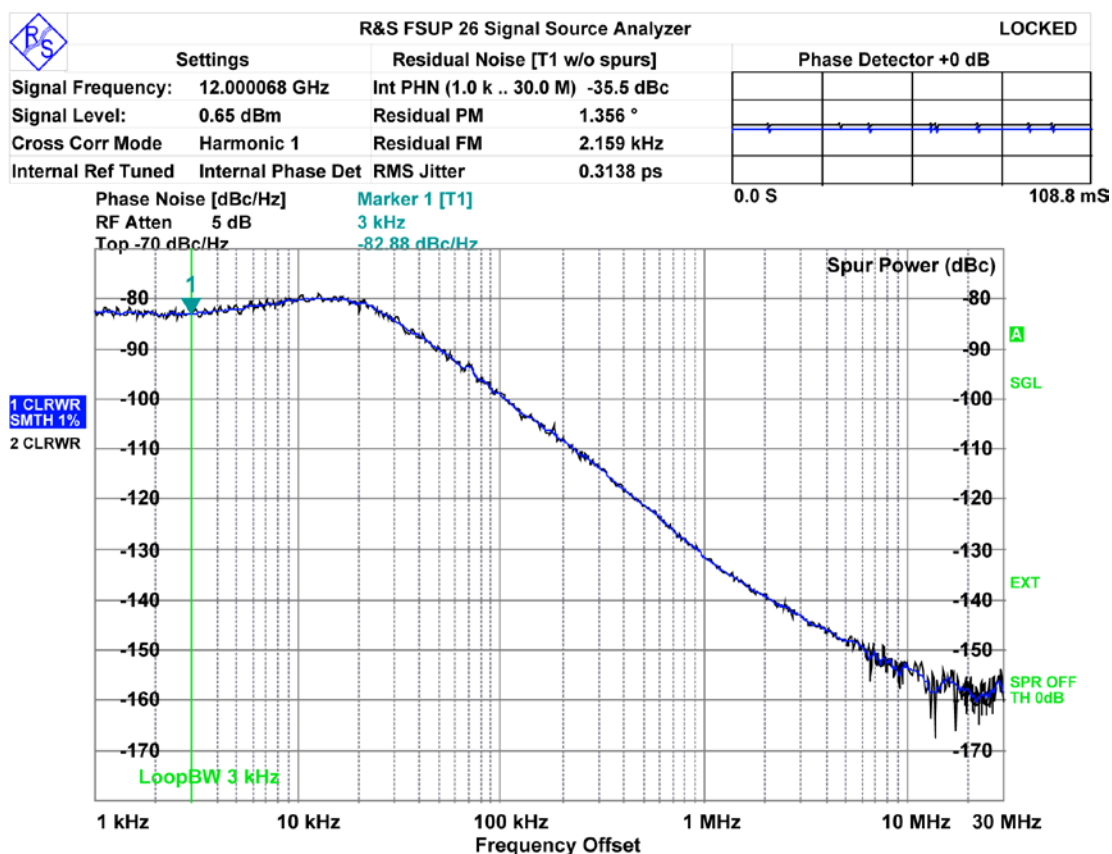
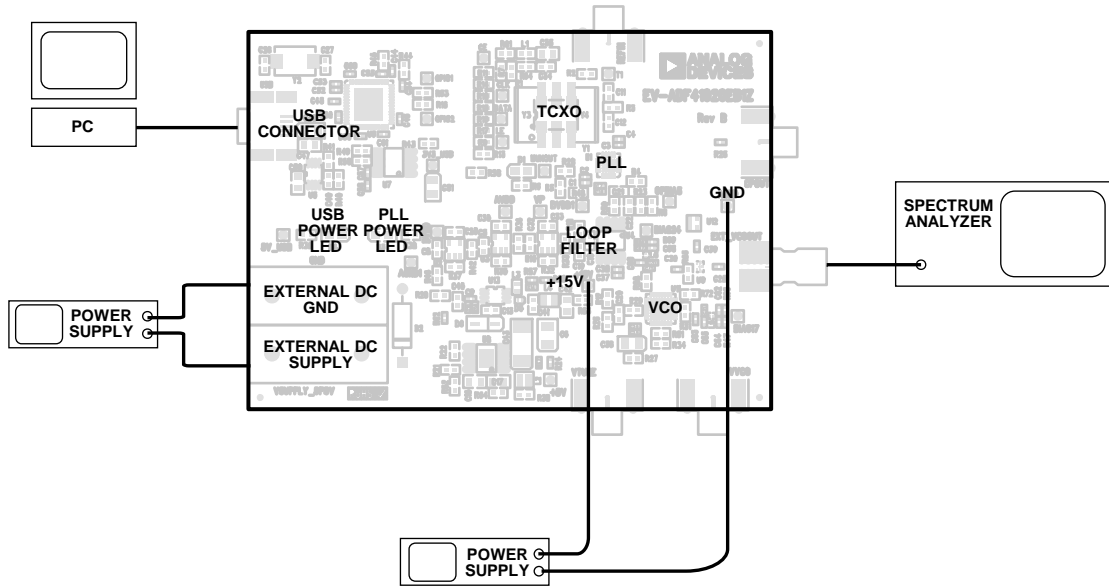

Figure 6. Spectrum Analyzer Display
Figure 7. Typical Evaluation Setup
8. Select the USB board and the ADF41020 device in the **Select Device and Connection** tab of the software front panel window. On the **Main Controls** tab, set the VCO center frequency (Figure 6 uses a 12 GHz VCO). Set the PFD frequency as specified in ADIsimPLL, and program the reference frequency to 100 MHz. See Figure 7 for the suggested setup.
9. Measure the output spectrum. Figure 6 shows a 12 GHz output.